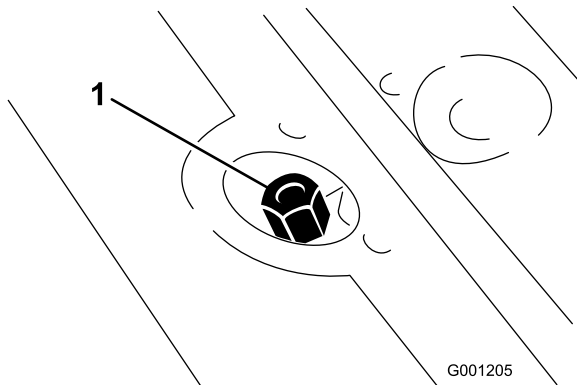

Figure 23
2. Remove dipstick cap (Figure 23) from filler neck and wipe it with a clean rag. Screw dipstick cap finger-tight onto filler neck; then remove it and check level of fluid. If level is not within 1/2 inch (13 mm) from the groove in the dipstick (Figure 23), add enough high quality hydraulic fluid to raise level to groove mark. Do not overfill.